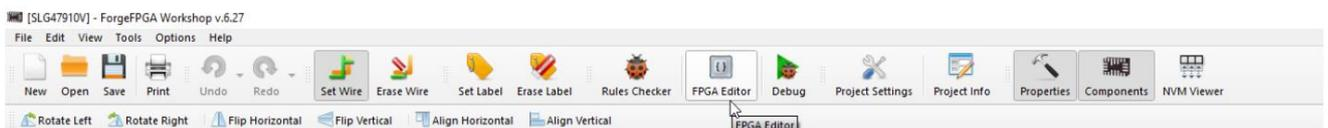

Figure 5: ForgeFPGA Tool Bar
1. Open the ForgeFPGA Workshop software in GreenPAK and select the SLG47910 device From the ForgeFPGA tool bar, select the FPGA Editor Tab (see Figure 5).